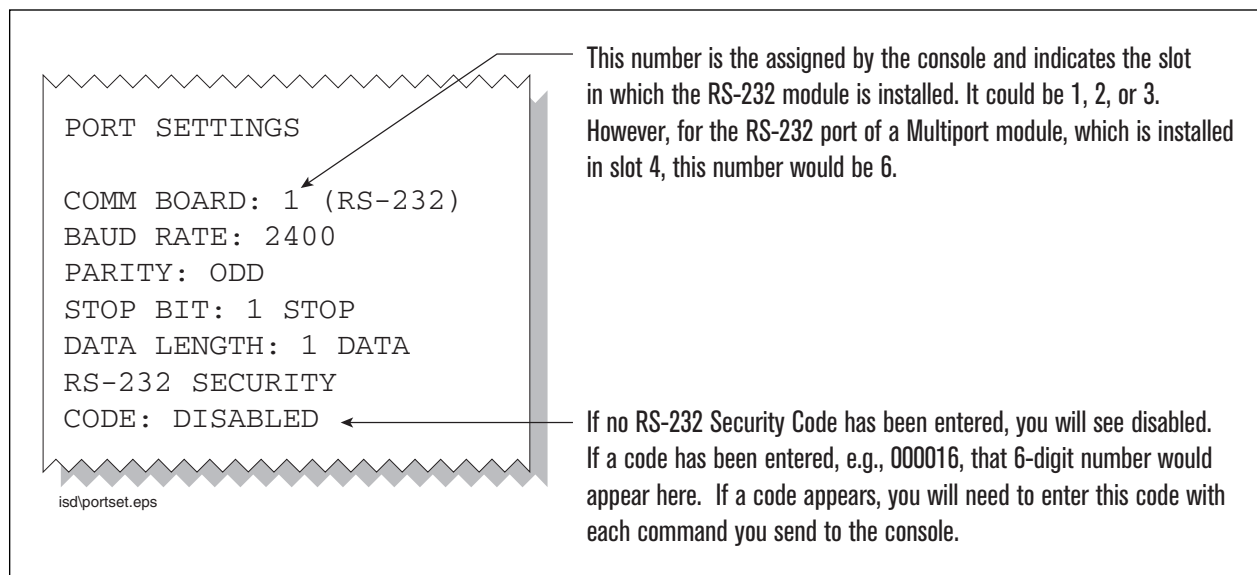

Figure 5-12. Console comm port settings prinout example
- d. Press the PRINT key to printout the port settings for all communication modules installed in the console. Figure 5-12 shows an example port settings printout with the RS-232 module installed. Using the console port settings in the example below, your HyperTerminal 'Port Settings' window entries would be Bits per second - 2400, Data bits - 7, Parity - Odd, Stop Bits - 1. For the 'Flow Control' entry select None. Click OK.